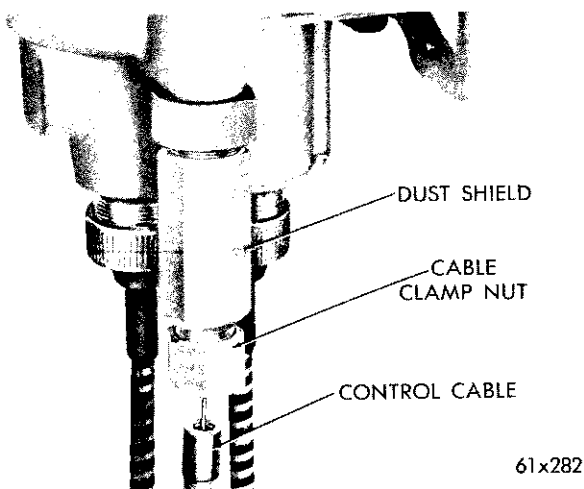

Fig. 9—Pulling the Control Cable out of the Dust Shield
(3) Remove the clamp nut, and pull the control cable out of the dust shield until the ferrule on the end of the cable is free from the bottom of the dust shield (Fig. 9).